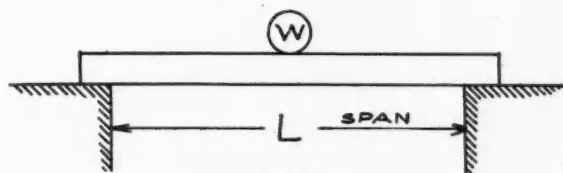

Fig. 7
*Case III (Fig. 7).—Beam Supported at Both Ends and Loaded at Middle:*